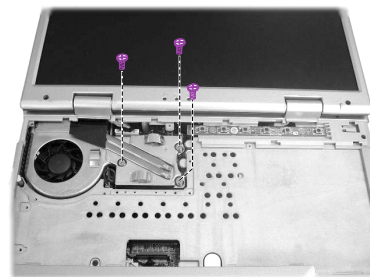

Figure 2-7 Remove the heatsink
3. Remove three screws fastening the heatsink. (Figure 2-7)